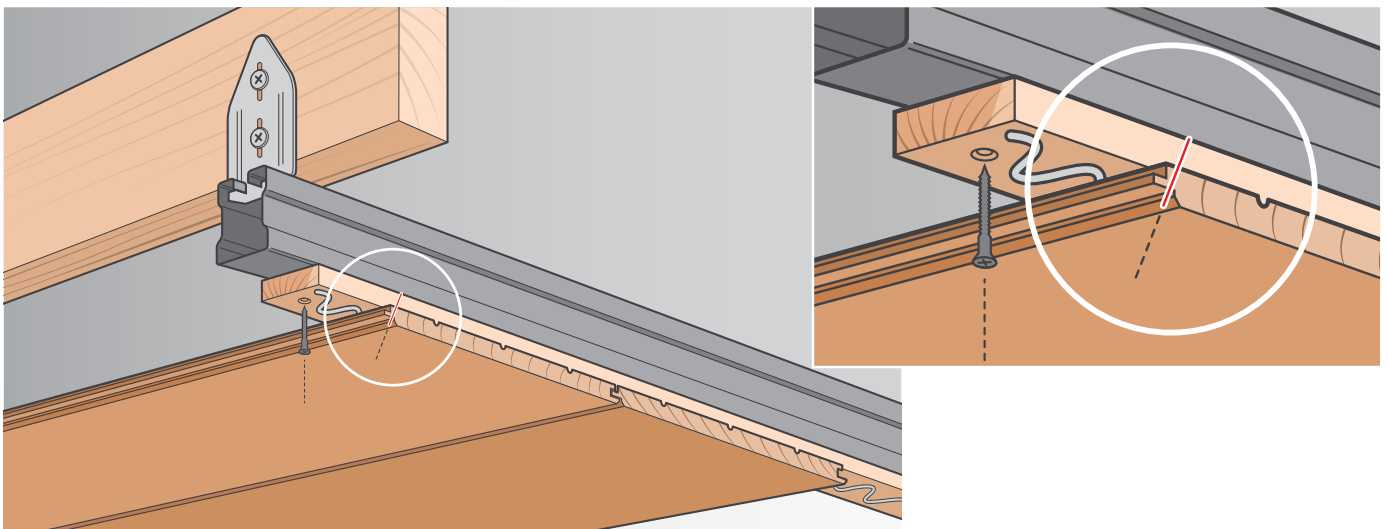

Figure 4: Panelling installation using metal track system / timber batten / secret nail and glue.
- For panelling that cannot use face fixing screws, it is necessary to securely screw a timber batten to the bottom of a metal track, then proceed as per timber framing projects [see Figure 4].